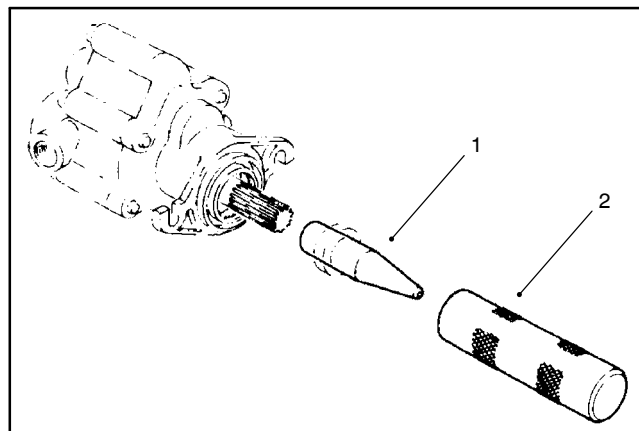

Figure 91
3. Put seal protector tool on motor shaft (Fig. 91) or apply thin plastic or tape on the shaft to protect the seal from damage.
6. Use seal installation tool to install new shaft seal. Make sure seal is installed square with the seal bore (Fig. 91).